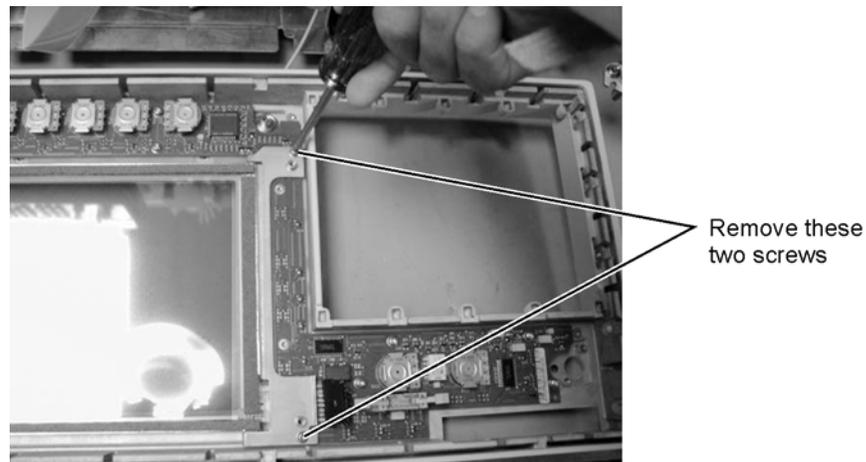

Figure 7-53. Removing the Touch Screen Screws
- 2 Using a T-10 TORX driver, remove two screws that secure the touch screen board bracket, as shown in Figure 7-53.